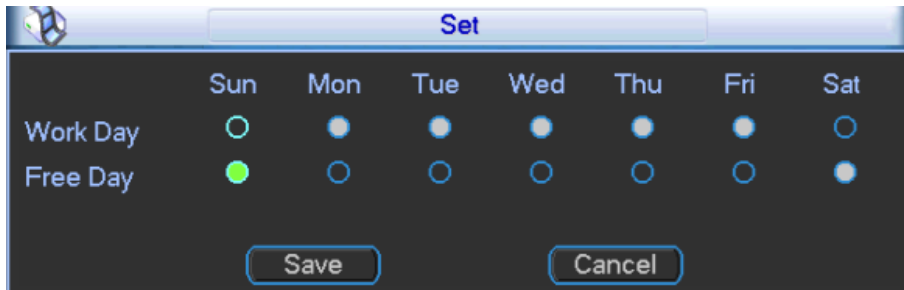

Figure 3-56
2. Click "Set" in the right; divide work day and free day, as shown in Figure 3-56. The user divides them according to needs. For example, set Monday to Friday as work days, Saturday and Sunday as free days.